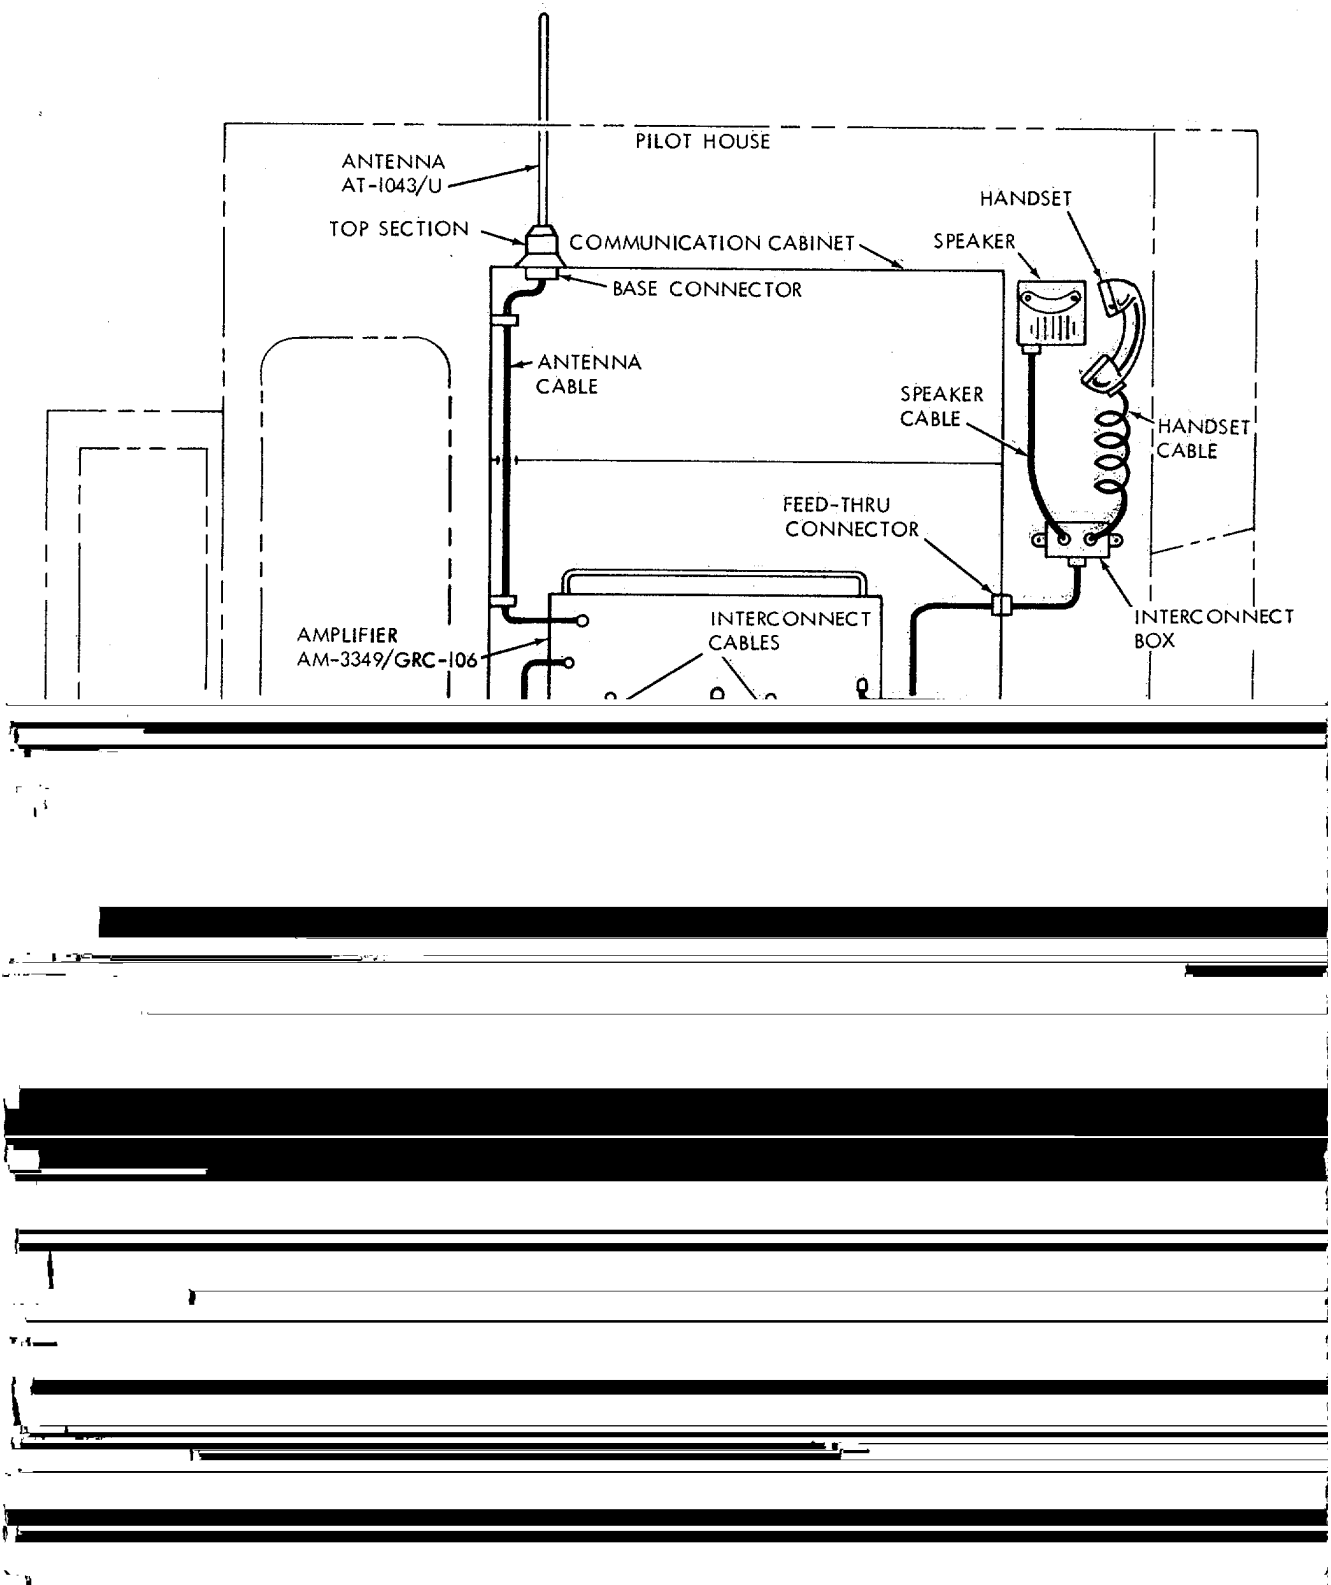

Figure 6-4. Radio set AN/GRC-106 (hulls 8540-8560 and 8580-8618).
- a. Removal.* Refer to figure 6-4 and proceed as follows:
- (7) Disconnect handset cable at the interconnect box. Remove the speaker unit, be removing attaching screws, nuts, and washers. Retain speaker and attaching hardware.
- (8) Disconnect speaker cable at the interconnect box. Remove and retain handset.
- (9) Disconnect cable from interconnect box to receiver/transmitter at the interconnect box. Remove the screws, nuts, and washers attaching interconnect box to bulkhead. Remove and retain box and attaching hardware.
- (10) Disconnect cable from receiver/ transmitter to interconnect box at the receiver/transmitter connector. Remove and retain cable.
- (11) Disconnect ground wire and remove the amplifier AM-3349/GRC-106 from the mounting.
- (12) Remove the receiver/transmitter RT-662/GRC from the shelf.
- (13) Reinstall the communications cabinet from panel. Connect battery ground cable.
- c. Installation (fig. 6-4).* Install components in reverse order of removal. Be certain that proper polarity is observed in connecting input cables.